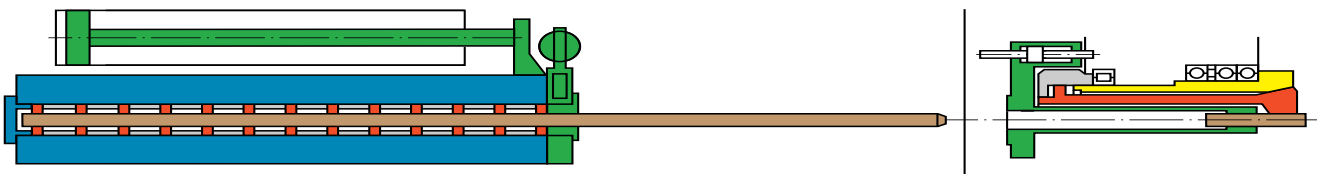

Fig. 5
5. The guide channel is locked. Stock is clamped by two jaws, matched to the stock profile, at the right end of the guide channel. Hex or square stock is clamped in aligned position to the stock surface (see Fig.5).